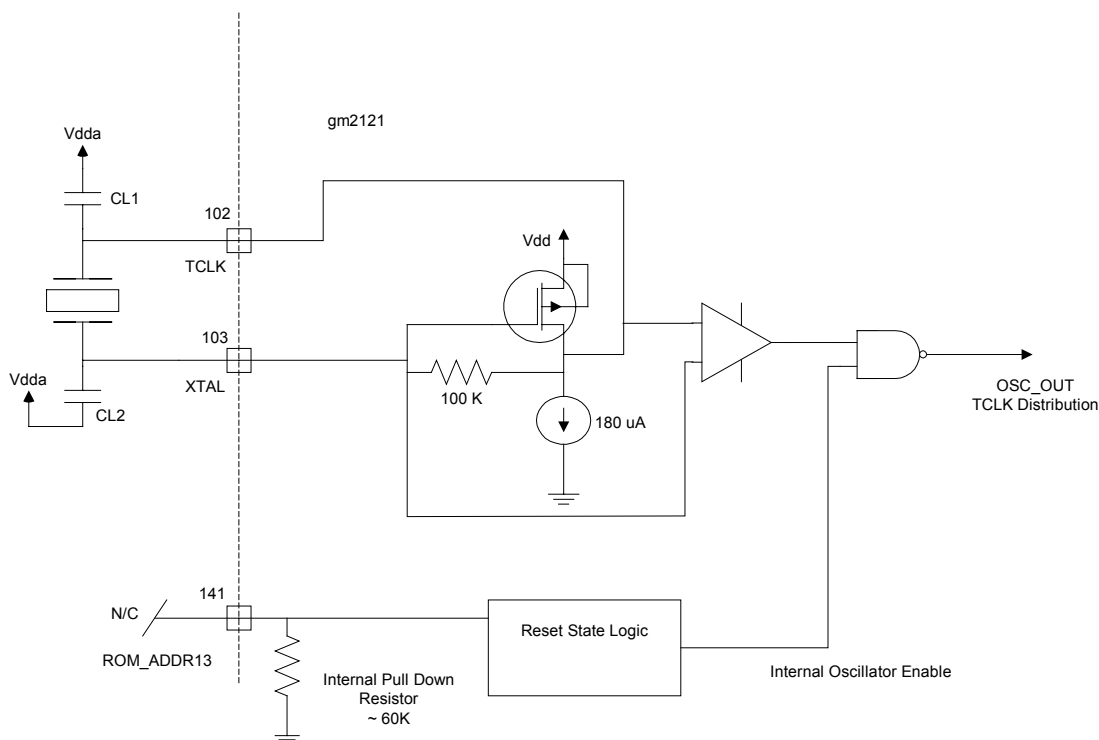
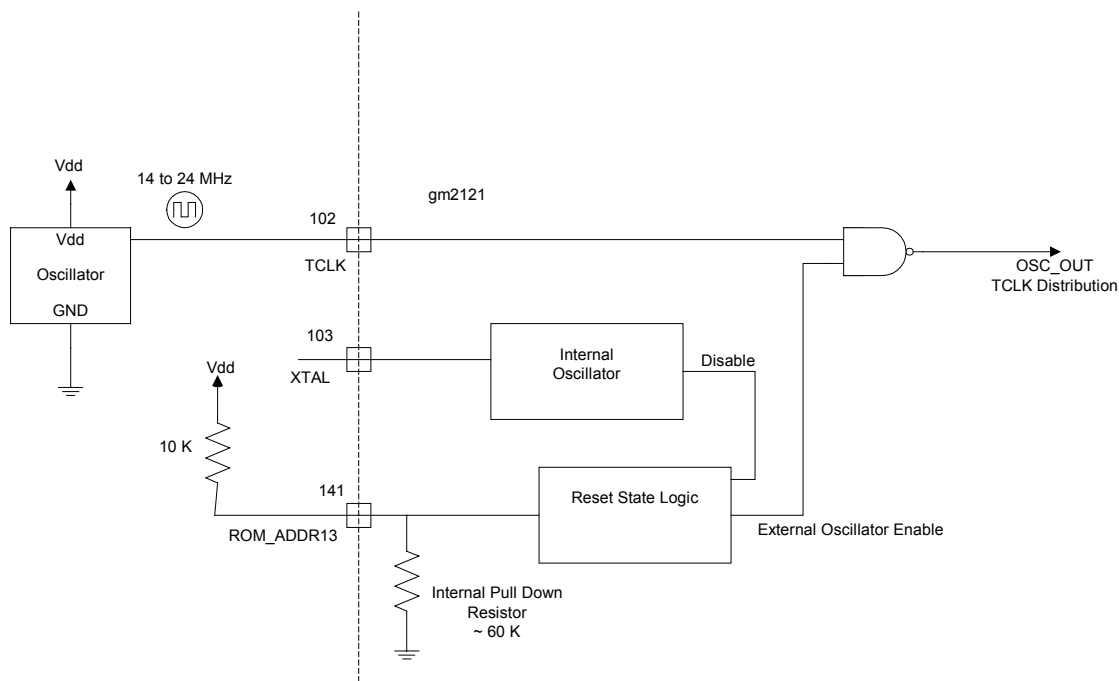

Figure 4. Using the Internal Oscillator with External Crystal
Figure 7. Using an External Single-ended Clock Oscillator
1. Crystal Input Clock (TCLK and XTAL). This is the input pair to an internal crystal oscillator and corresponding logic. A 20.0 MHz crystal is recommended. Other crystal frequencies may be used, but require custom programming. This is illustrated in Figure 4 below. Alternatively, a single-ended TTL/CMOS clock oscillator can be driven into the TCLK pin (leave XTAL as N/C in this case). This is illustrated in Figure 7 below. This option is selected by connecting a 10K Ω pull-up to ROM_ADDR13 (refer to Table 17). See also Table 12.
Another option for providing the reference clock is to use a single-ended external clock oscillator. When the gm2121 is in reset, the state of the ROM_ADDR13 is sampled. If ROM_ADDR13 is pulled high by connecting to VDD through a pull-up resistor (10KΩ recommended, 15KΩ maximum) then external oscillator mode is enabled. In this mode the internal oscillator circuit is disabled and the external oscillator signal that is connected to the TCLK pin is routed to an internal clock buffer. This is illustrated in Figure 7.